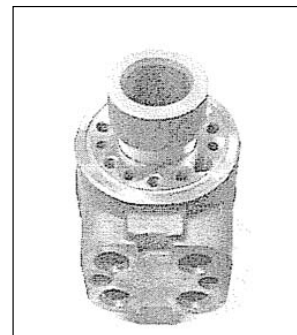

Figure 14
4. Insert sleeve into housing bore (figure 14).